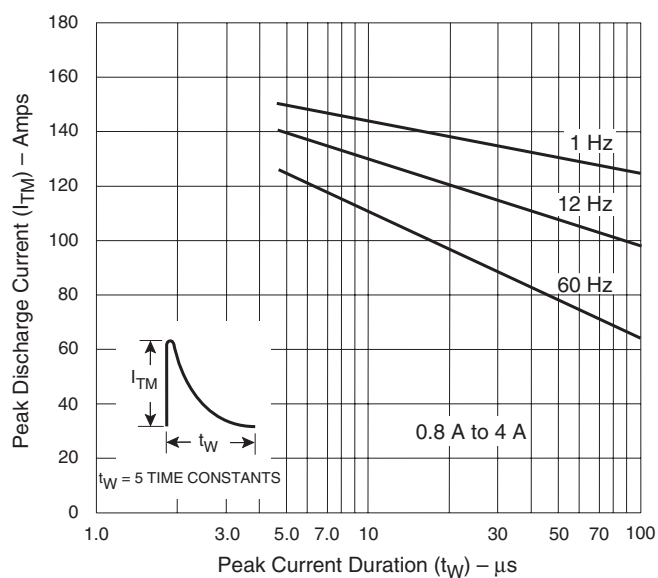

Figure E5.20 Peak Repetitive Capacitor Discharge Current
- 0.8 A to 4 A devices also have a pulse peak forward current on-state rating (repetitive) of 75 A. This rating applies for operation at 60 Hz, 75 °C maximum tab (or anode) lead temperature, switching from 80 V peak, sinusoidal current pulse width of 10 μ s minimum, 15 μ s maximum. See Figure E5.20 and Figure E5.21.